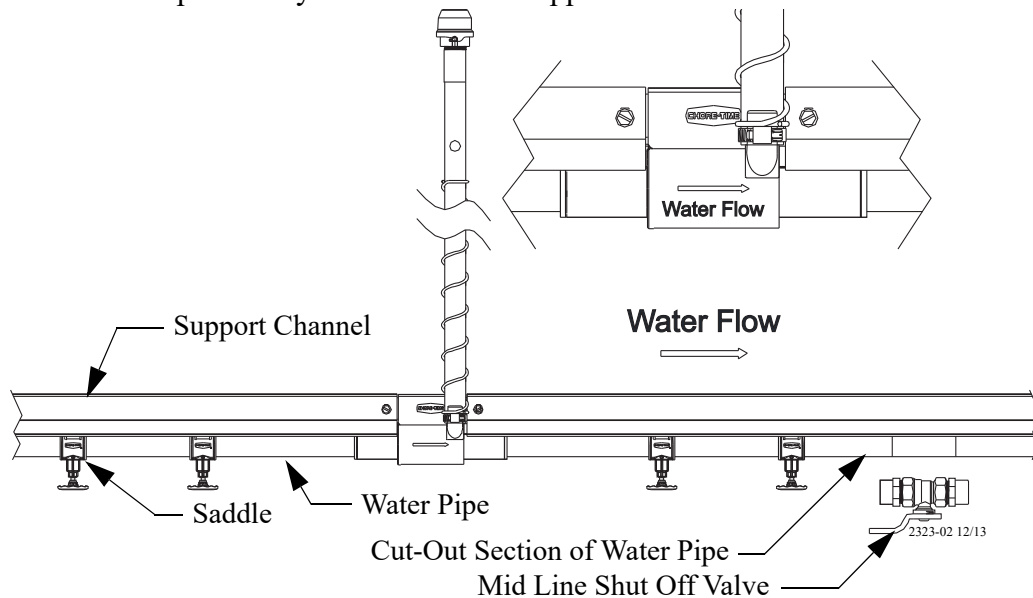

Figure 23. Mid Line Shut-Off Valve Installation
3. Use PVC pipe cutters to cut a section out of the water pipe. See **Figure 23**. The shut-off valve may be used as a template to determine the required size of the cut.